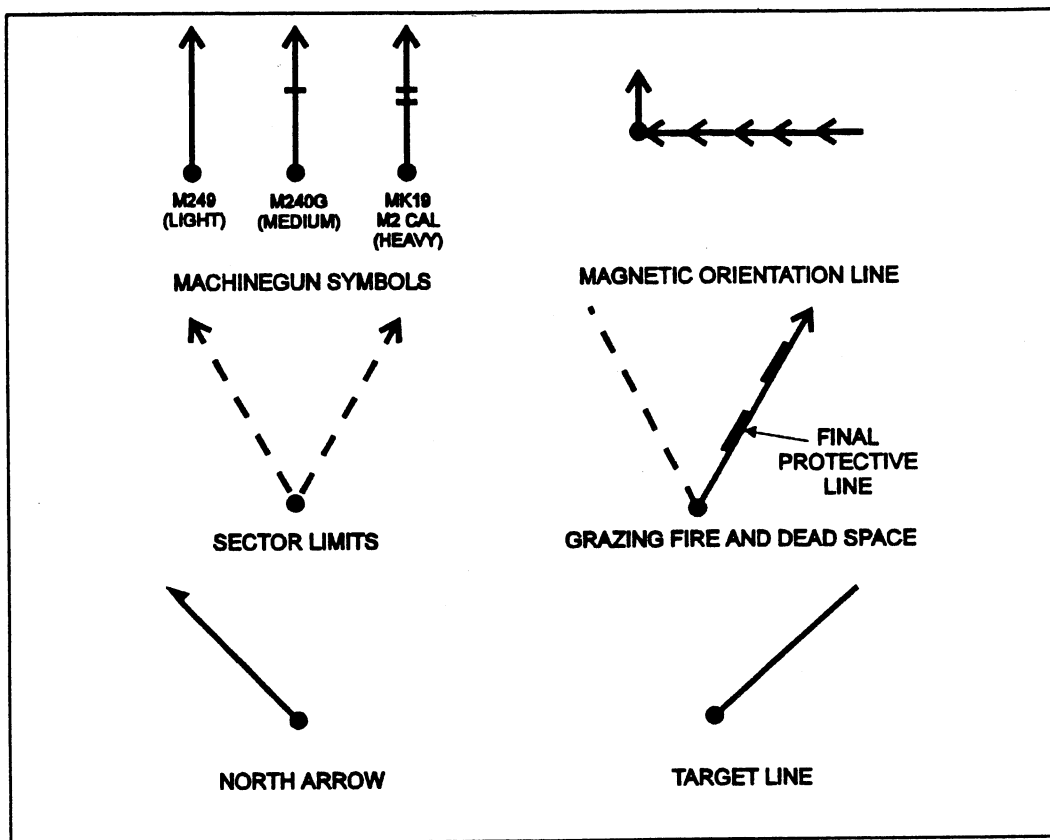
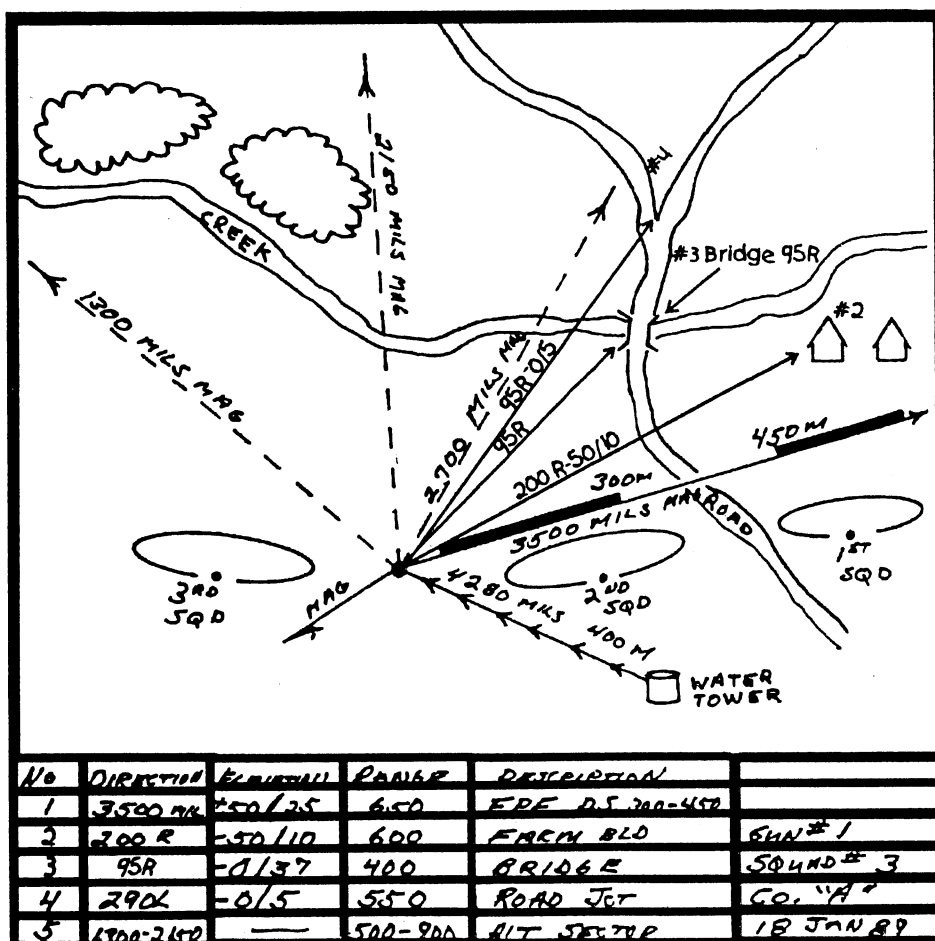

Fig 4-19. Range card symbols.
Fig 4-20. Range card with an FPL.
b. Completion of range cards. With so many people using your range card, it should be obvious to you that it must be neat, clear, and prepared according to a universal format. Observe figure 4-19 for components (1) through (5) and figure 4-20 for components (6) through (9). Each component is explained below for correct completion of your range card.
- (1) Sector limits. The sector limits are drawn as broken lines ending in arrow heads. If you are using an FPL, only one sector limit will be drawn because one is located in the same location as the FPL.
- (2) Weapon symbol. Figure 4-19 shows the correct symbols for a light machinegun (which is a single dot with a solid arrow extending out in the direction of the FPL or PDF), a medium machinegun (which is the same symbol, but with a bar across the arrow line), and a heavy machinegun (with two bars across the line). The dot in all the symbols represents the location of the gun. The magnetic azimuth of the FPL or PDF will also be recorded along this line.
- (3) Magnetic north arrow. This arrow is drawn from the dot that represents the gun position. The arrow is drawn to indicate the direction north. The arrow is drawn from the gun position as if you were looking out towards your sector of fire. The correct symbol for north is an arrow with a single barb.